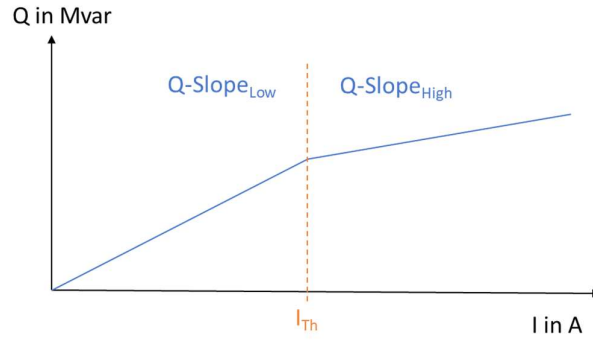

Figure 2: Graphical representation of reactive power calculation
The linear relation between neutral point current and reactive power demand is split into to areas with two different slopes and a threshold current, as shown in Figure 2.
- Q Slope Low, Threshold and Q Slope High: see 3.1.1 and Figure 2. The values of  $Q_{Slope}$  and Threshold correspond to neutral point currents. If there is no data available for the Transformers Q-Slopes or the threshold, it must be replaced by 'x'.